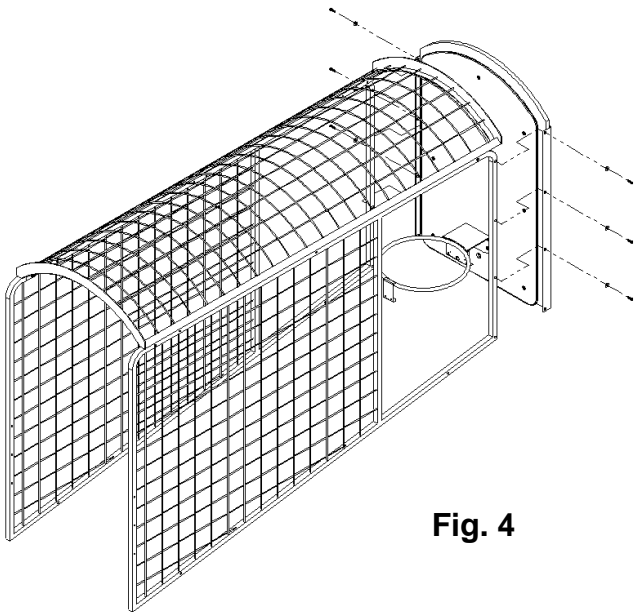

Fig. 4
- Attach the backboard assembly to the cage framework using (6) 1/4-20 x 1" button head screws and (6) flat black washers. (See Fig. 4)